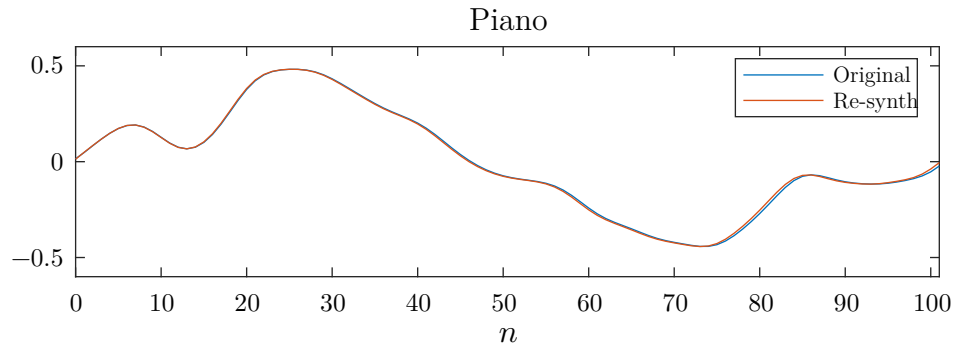

Figure 7.8: Comparison between a *single period* of the original slice from `piano.wav` and the re-synthesized slice.
script to re-synthesize a single period of the piano with a period of $T_0=1/F_0$ (use the same F_s as the original instrument recording). *Hint*: Remember that the `T_dur` parameter to `fsynth(...)` is specified in seconds, not number of samples. Generate a figure that overlays the re-synthesized signal atop the original slice. Your figure should appear similar to Fig. 7.8. Include this figure in your report.
- Section 7.4.2: Update `piano_slice.m` to re-synthesize a single period of the piano. Generate a figure that overlays the re-synthesized signal atop the original slice (as in Fig. 7.8). Include this figure in your report.